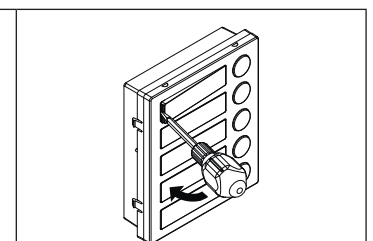

Fig. 10
- Move the screwdriver to the left as shown in Fig. 10 to extract the card name holder;